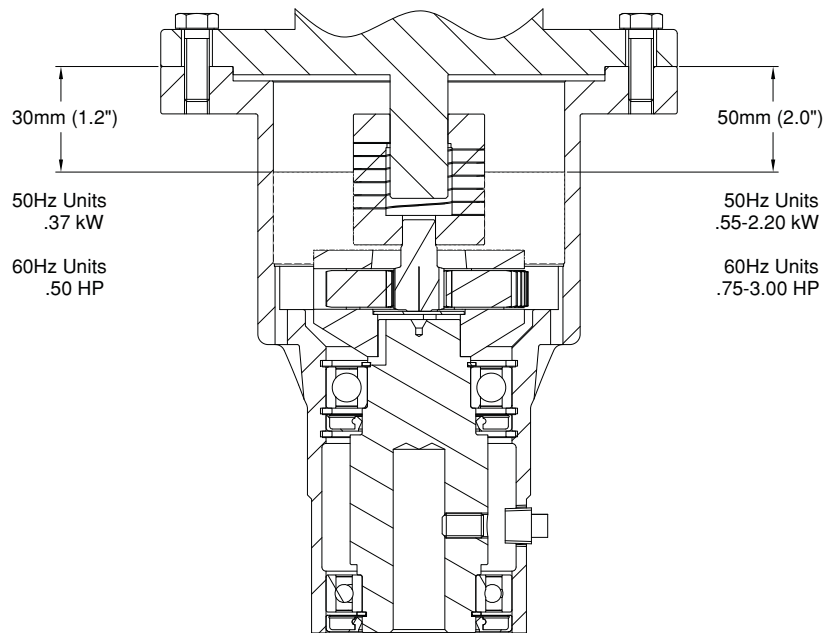

Figure 10 – Grease Level
- 7.5 An alternate method to achieve the proper amount of grease required is to measure from the top of the mixer housing (36) down to the grease level as shown in Figure 10.
- Pack the gear chamber with fresh grease (see Table 3 on page 18 or Figure 10, above). Paddle the grease to fill voids and remove air pockets, rotating the shaft and shaking the housing while paddling.